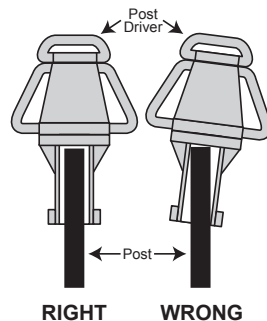

Fig. 4 - Proper alignment of driver and post.
4. Place the driver on the post to be driven. Position the driver (Fig. 4) aligned centered to the post. If not aligned properly, damage could be caused to the driver or the post. Slowly squeeze the air throttle valve lever to start the driver. Opening the throttle valve slowly will prevent a violent start of the driver. Never tape, wire, etc., the throttle valve lever open.